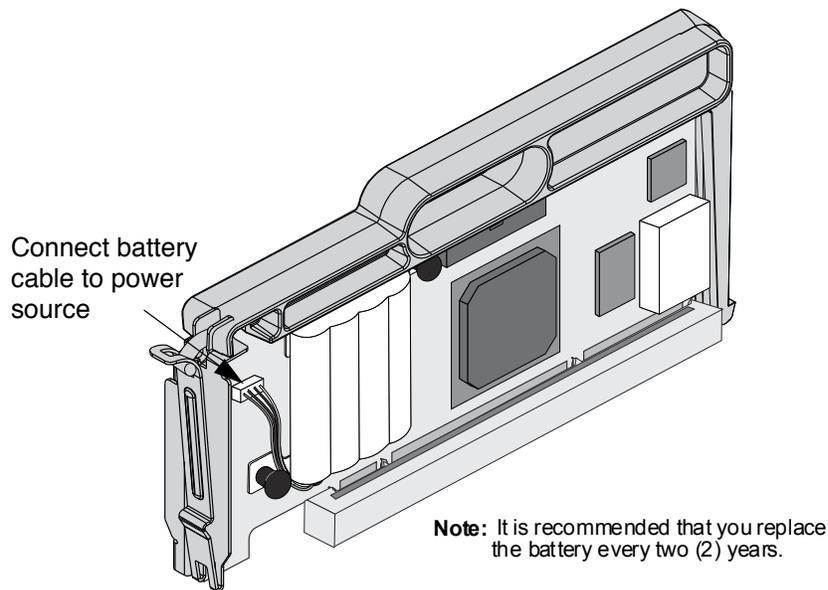

Figure 4. Inserting a ServeRAID-8i controller into the PCI expansion slot
6. Plug the battery cable into its power source on the controller card. See Figure 4.